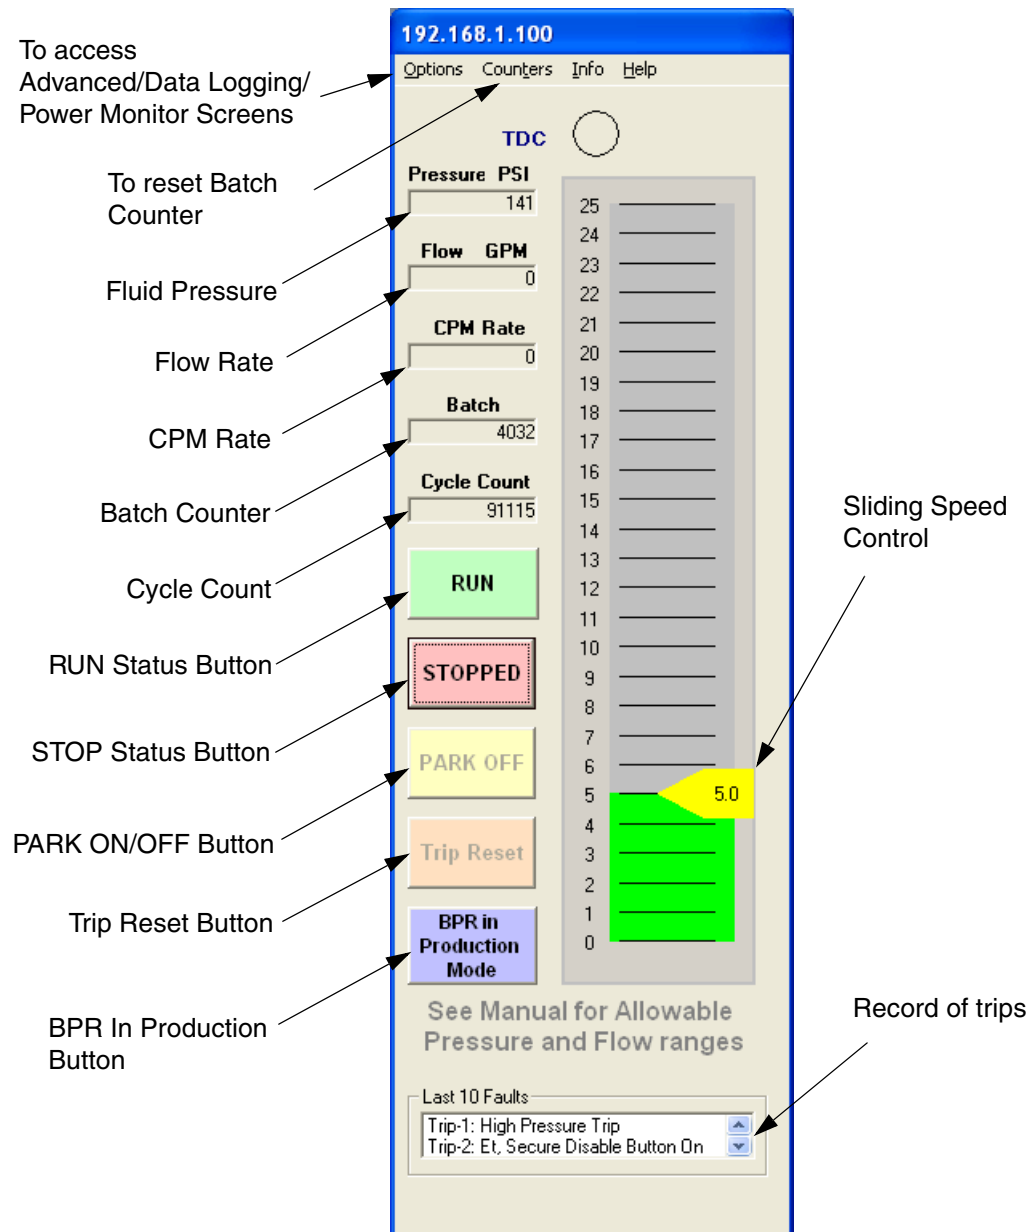

FIG. 17. Run Screen
3. Click CONNECT. See FIG. 14. The Run screen appears. See FIG. 17. The Network Setup window will close when connection is made.
See FIG. 17. The sliding scale on the Run screen sets the pump speed in units of flow.
See FIG. 17. The counters are active in both remote and local mode.
See FIG. 17. In remote mode, the buttons are active and may be used to control the pump.